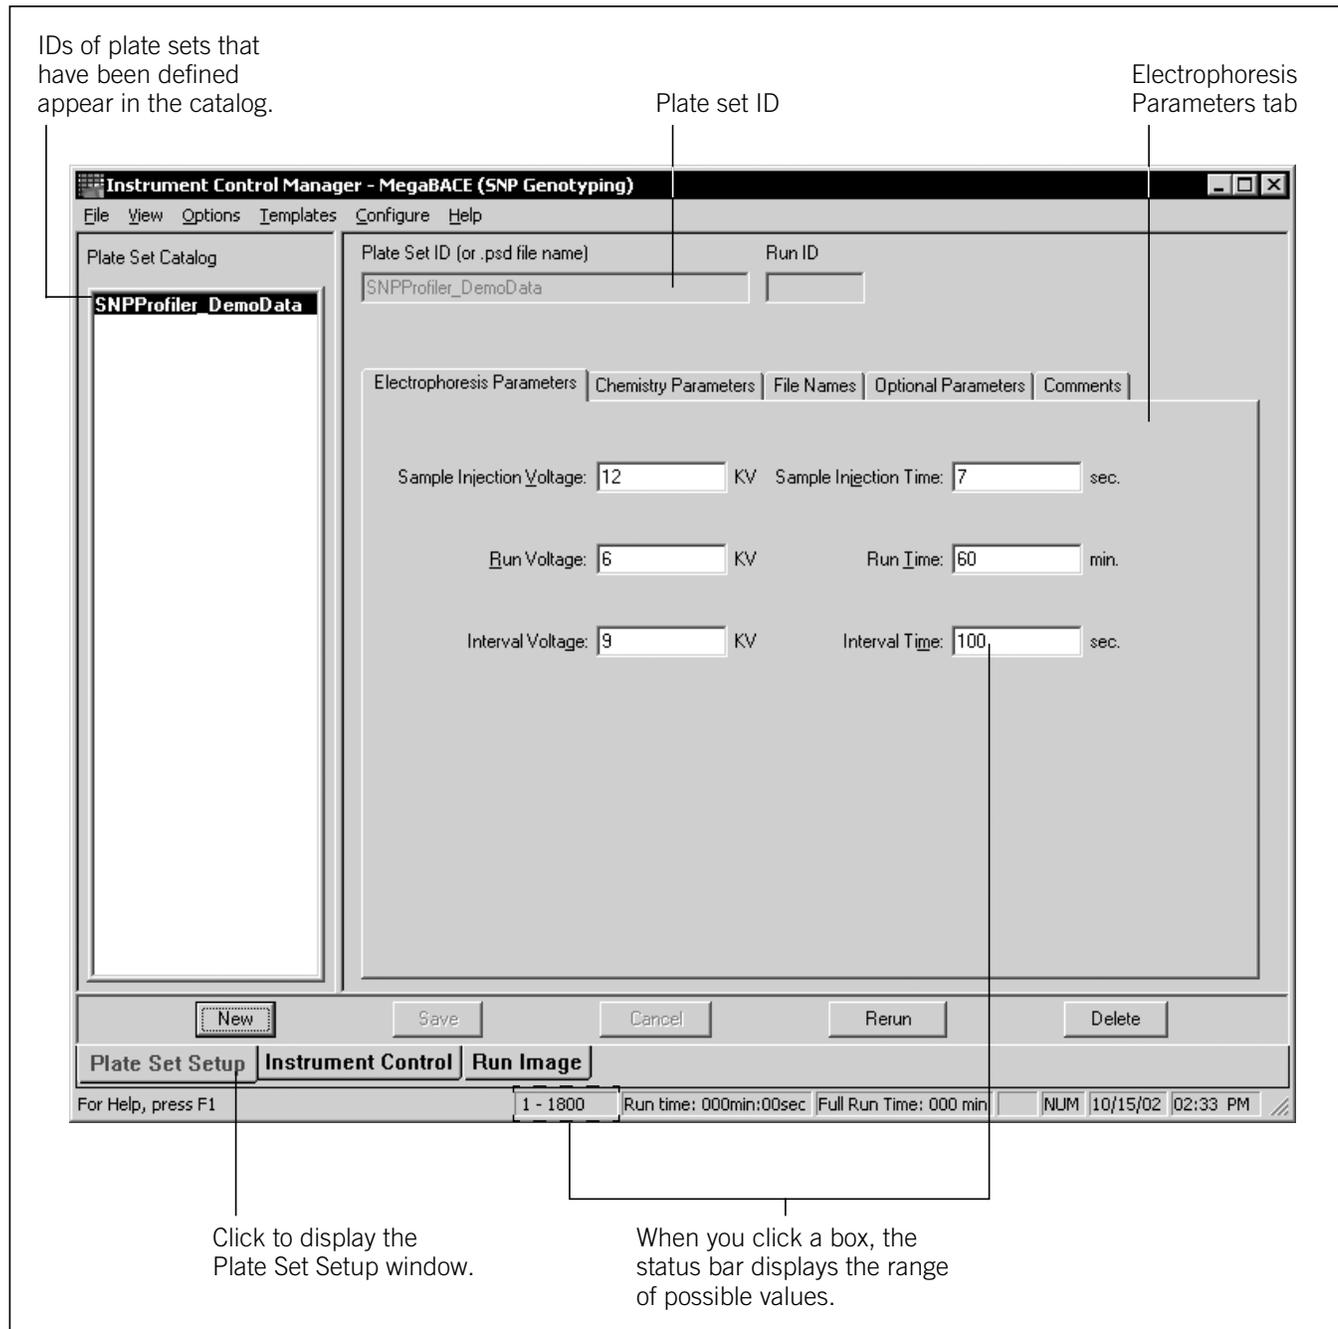

Figure 14-1. The Plate Set Setup window for SNP genotyping.
You can create a plate set definition before you perform each multi-injection run, or you can create multiple plate set definitions and then perform the runs later. Before the run, you can create the plate set definition automatically using the Plate Set Setup window (figure 14-1) in the Instrument Control Manager. To do this, you enter a plate set ID and either—
2. Click the **Plate Set Setup** tab at the bottom of the Instrument Control Manager window. The title bar of the Plate Set Setup window (figure 14-1) displays the name of the selected application.
- Electrophoresis Parameters tab (figure 14-1)